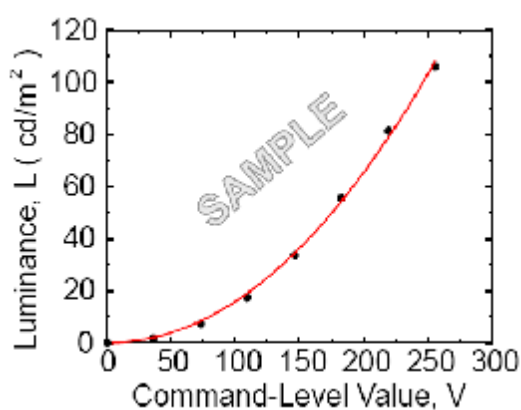
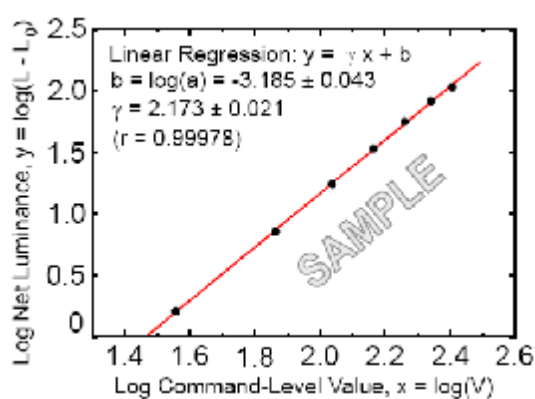

FIG. 5 Sample Luminance vs. gray scale (using a 256 bit gray scale)
FIG. 6 Sample Log-log plot of luminance vs. gray scale
7. GSR is the rate of gamma shift at up, down, left and right 60 degree viewing angle compare with center gamma. For more information see FIG 5 and FIG 6 **(By EZ Contrast)**
The GAMMA we calculate from the log-log representation (FIG. 6)